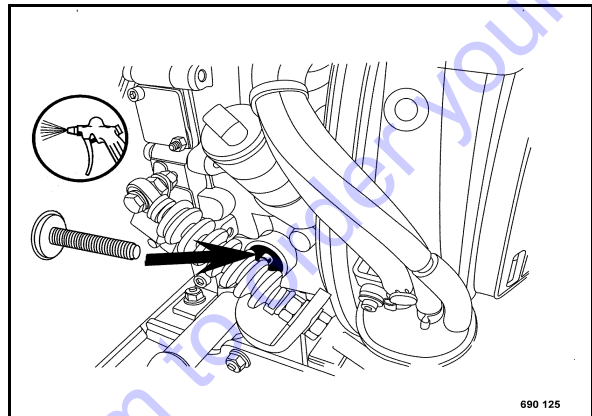

Fig. 47
- Loosen the fastening screw and pull the engine oil filter out of the housing (Fig. 47).